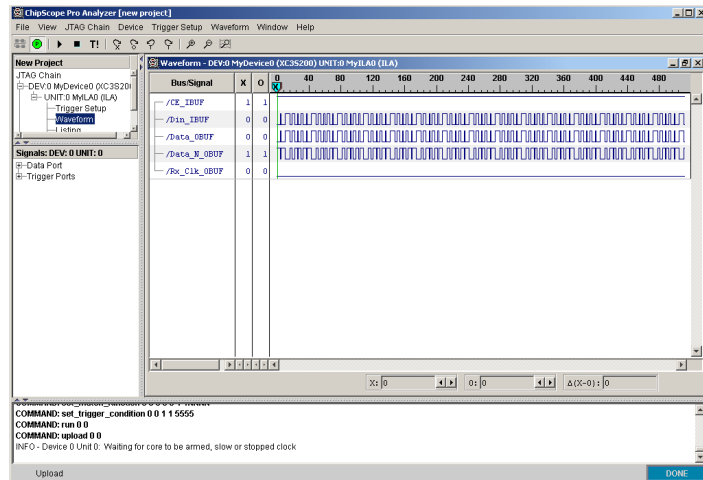

Figure 29
43. Maximize the waveform window you should see a waveform similar to (Figure 29).